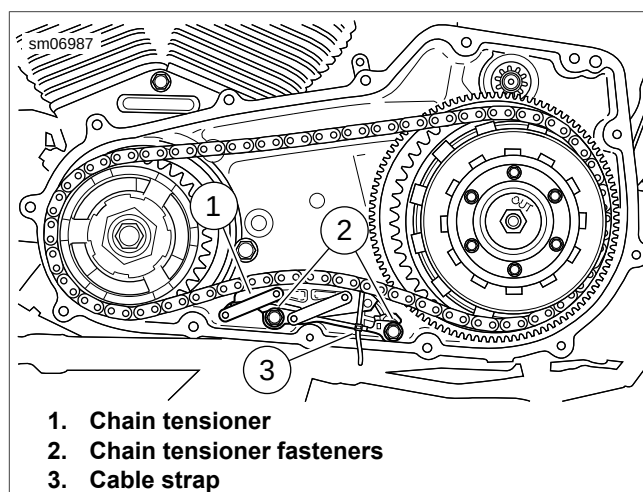

Figure 5-5. Chain Tensioner
6. See Figure 5-5. Remove chain tensioner fasteners (2) and chain tensioner (1).